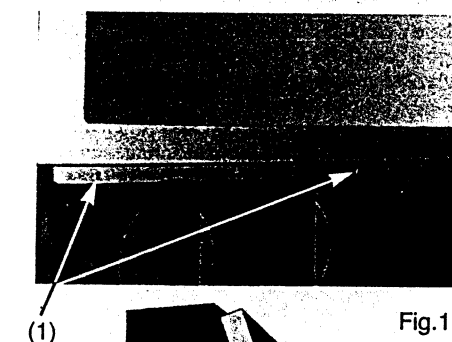

Fig.1
- 2- Rimuovere le viti di fissaggio degli schermi (1) nella parte bassa del pannello frontale (Fig1)
- 2- Rimuovere le viti di fissaggio degli schermi 1 nella parte bassa del pannello frontale (Fig1)
- 2 - Quitar los tornillos (1) que sujetan la pantalla al frontal en la parte baja del marco (Fig.1)
- (EN)**
3. Remove the four lens torx securing screws (Fig. 1) and carefully remove the lens assembly (note the orientation of the lens with respect to the tube). If you are replacing more than one tube, please ensure that the lens assembly fitted to the original tube is fitted to the replacement tube, this is necessary in order to avoid time consuming optical readjustments.